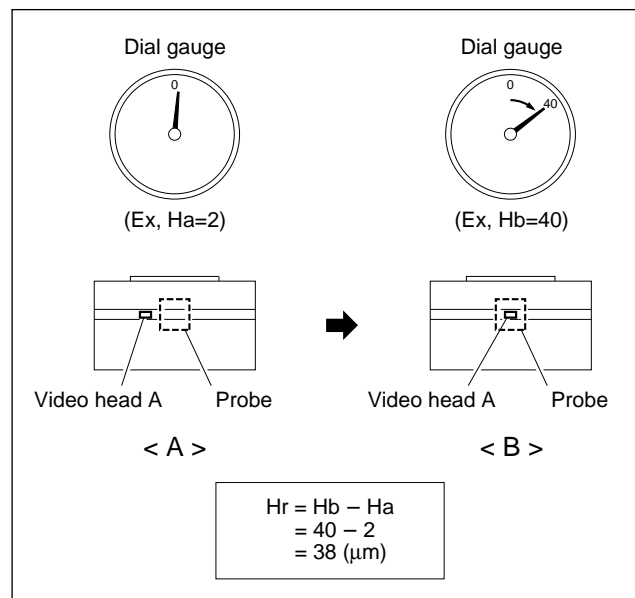

Figure 4. Example of Head Tip Protrusion Measurement
1. Turn the upper drum manually counterclockwise (○) very slowly to approach a video head aside of the probe. (Refer to <A> in Figure 4.)
3. Turn the upper drum manually counterclockwise (○) very slowly to center the video head in the probe. (Refer to in Figure 4.)